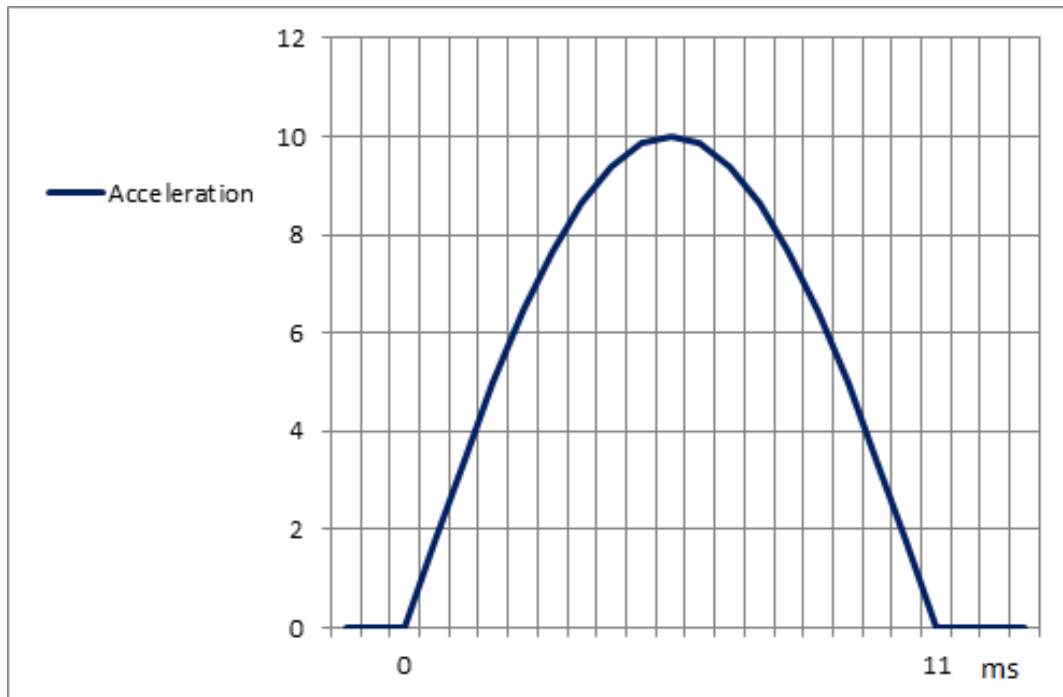

Figure 1.10.1.01 Operating Shock test curve
7. Test Environment Curve Figure 1.10.1.01